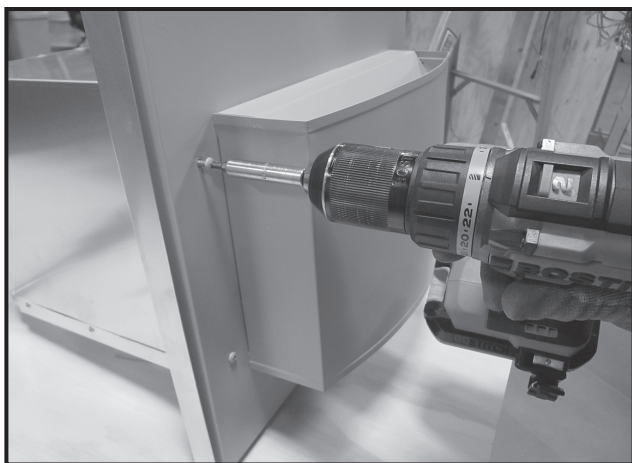

Figure 3.18
10. The front cover must be removed to access the mounting holes for the cap. Remove the four screws that attach the front cover, then remove the cover. See Figure 3.18.